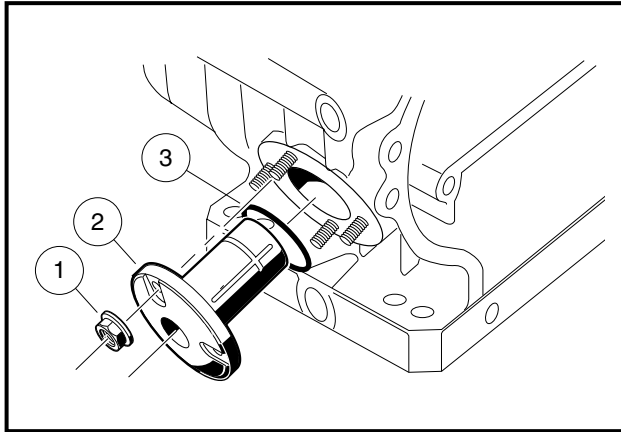

Figure 13-72 Counterbalance Guide Shaft and O-Ring Removal
1. Remove the four nuts (1) and pull out the counterbalance guide shaft (2) and the O-ring (3) (**Figure 13-72, Page 13-36**).